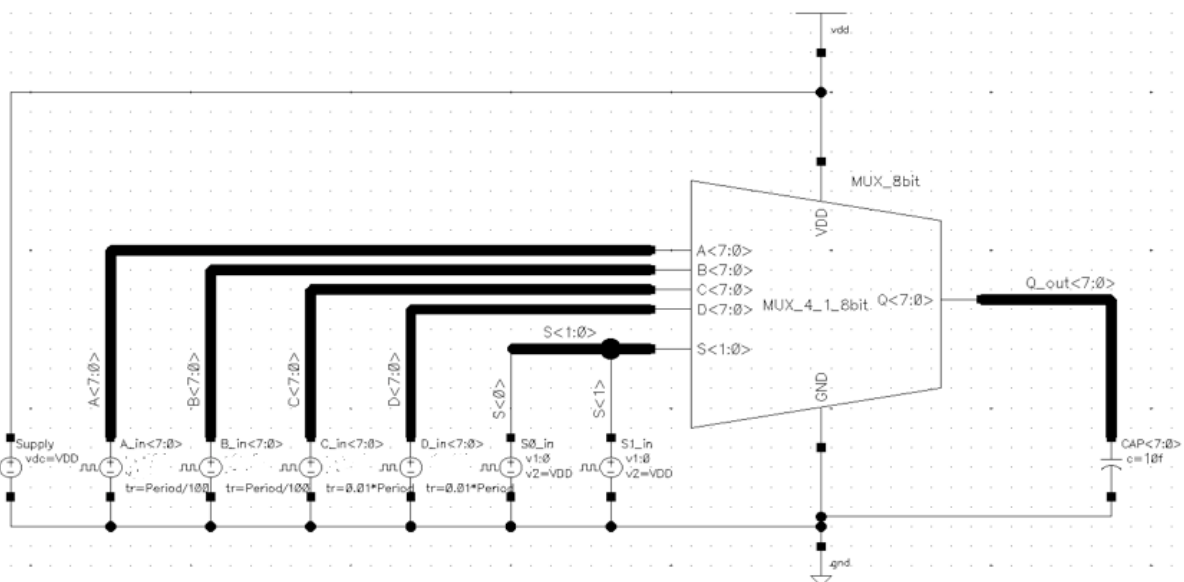

Figure 1 - Schematic View of the Testbench for the 8-bit MUX.
- ✓ Instantiate the symbol of the **MUX_4_1_8bit** that you have already generated in the previous session into the new schematic editor window. Then complete the schematic as shown in Figure 1.
- ✓ For **pulse generators** (**A_in<7:0>**, **B_in<7:0>**, **C_in<7:0>** and **D_in<7:0>**, **S0_in** and **S1_in**, as indicated in Figure 1) use **vpulse** component from **analogLib**. Check that names of the instances correspond to Figure 1, and that the properties correspond to the Table I.
- ✓ Use **Add→ Wire Name** or press **"I"** to place labels accordingly to the input/output signals as shown in Figure 1.
- ③ Note from the Table I, that **VDD**, **Vsweep** and **Period** are defined as variables. Numeric values can be set directly here, as we did for **Voltage 1** of the pulse generators which is always equal to zero. We will set the actual numeric values of these variables later, when we launch the circuit simulations.
- ③ Variable **Vsweep** will be used to gradually vary the voltage of the input S1, and observe the corresponding output voltage of the inverter within the MUX. This type of simulation is usually called **voltage sweep**.